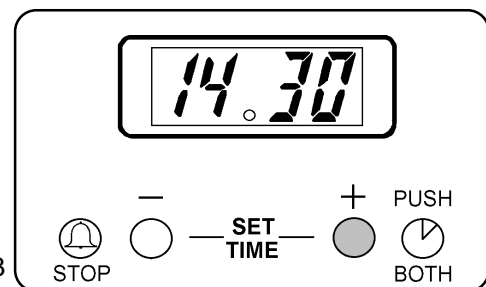

Fig.4
To set, press button (1) and the display will read 0:00. See Fig. 4.